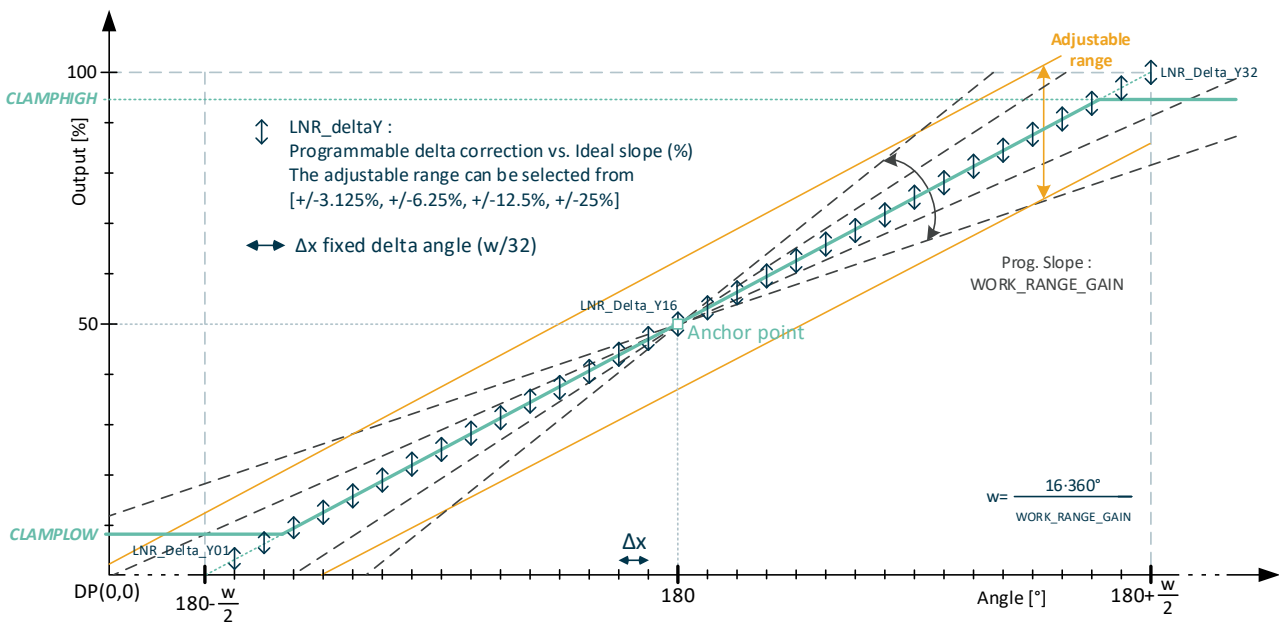

Figure 32 – 33-pts Linearization Parameters Description
The shape of the MLX90377 33-pts transfer function from the digital angle value to the output voltage is described in Figure 32 (43) below. In the 33-pts mode, the output transfer characteristic is Piece-Wise-Linear (PWL).